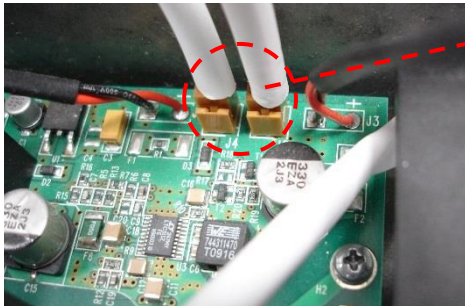

Fig. 6:
- For version with power supply: if applicable, disconnect the modem backup batteries from the power supply (see Fig. 6: above).